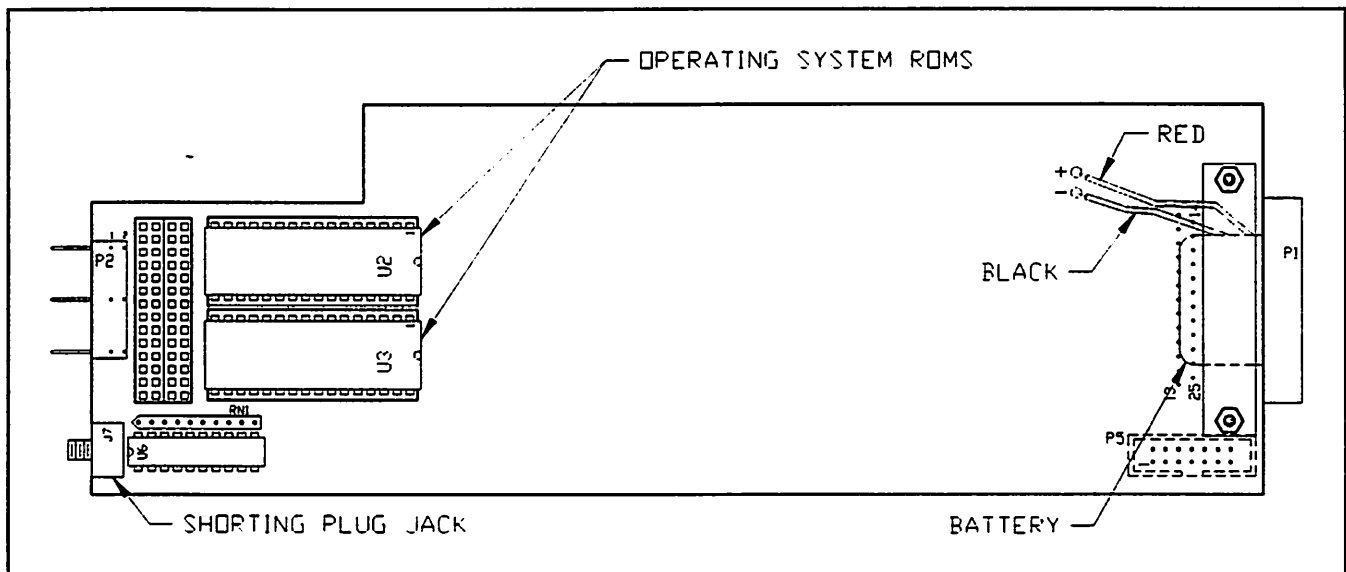

Figure 6. Location of Lithium Battery on 5000 and 7000 CPU Board.
7. The lithium battery assembly is mounted near the D-connector. (Refer to Figure 6.) Note the polarity of the two wires from the battery to the CPU board. Using the razor blade or X-acto knife, cut along the shrink tubing on the battery lead. Unsolder these two wires from the terminals on the CPU board.
11. Solder the wires from the new battery to the terminals on the CPU board. Be sure to use the same polarity as the previous battery. (Refer to Figure 6.)
8. The lithium battery assembly is mounted near the D-connector. (Refer to Figure 6 on page 21.) Note the polarity of the two wires from the battery to the CPU board. Using the razor blade or x-acto knife, cut along the shrink tubing on the battery lead. Unsolder these two wires from the terminals on the CPU board.
12. Solder the wires from the new battery to the terminals on the CPU board. Be sure to use the same polarity as the previous battery. (Refer to Figure 6 on page 21.)